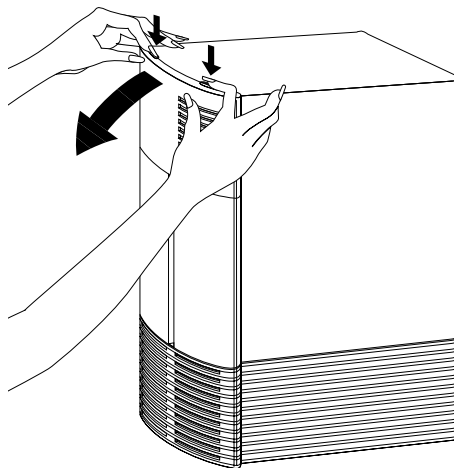

Figure 3-18 Removing the Plastic Cover From the Indigo Chassis
- Press down on the tabs and pull the panel away from the chassis, as shown in Figure 3-18.